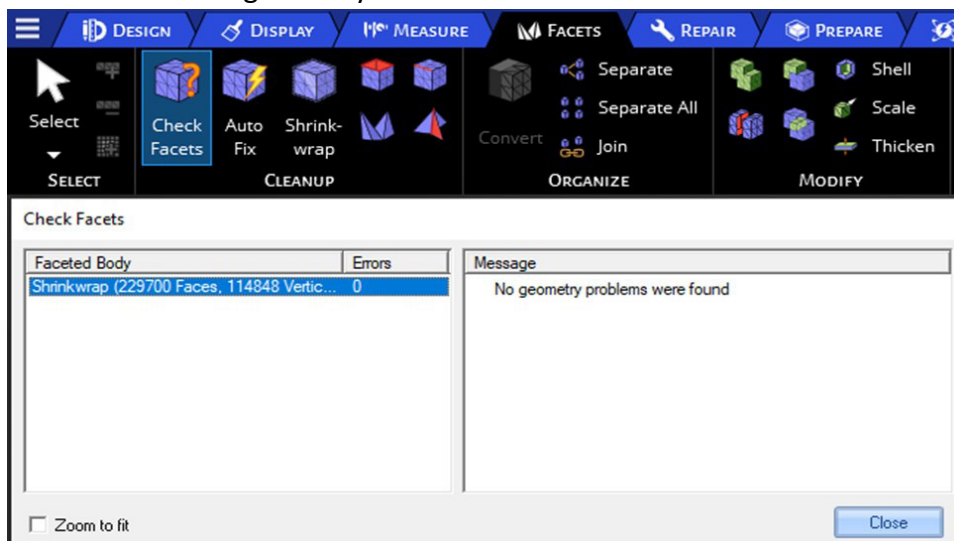

Figure 7: Message showing there are no errors within the scan data after all points in step 3 have been completed.
5. Select “Check Facets” to ensure there are no errors remaining (Figure 7). If so, the scan data is ready to be converted into CAD geometry.